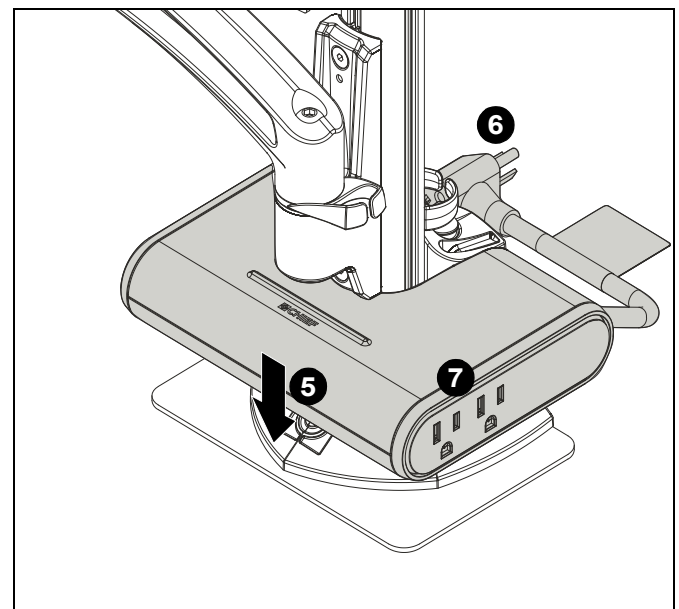

Figure 3
5. Set KPWR assembly (A) onto top portion of desk clamp. (See Figure 3)
- Two AC outlets: 120VAC, 60Hz (See Figure 3)